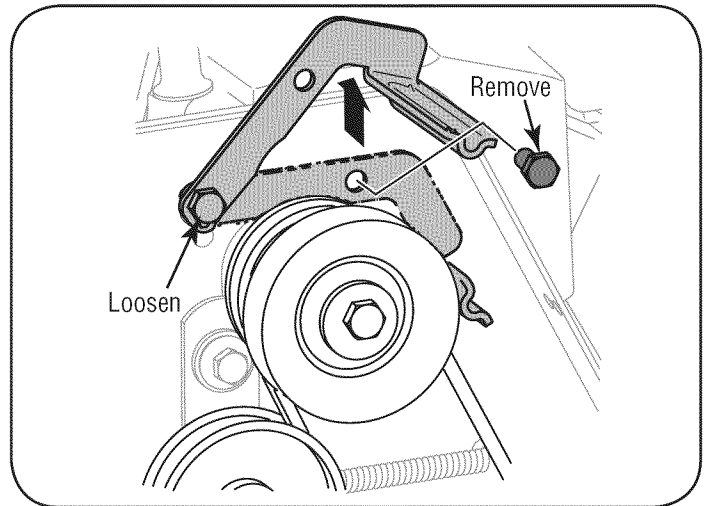

Figure 28
3. Loosen the bolt shown in Figure 28 securing the belt keeper bracket and remove the other bolt. Push the belt keeper and bracket up off the engine pulley.